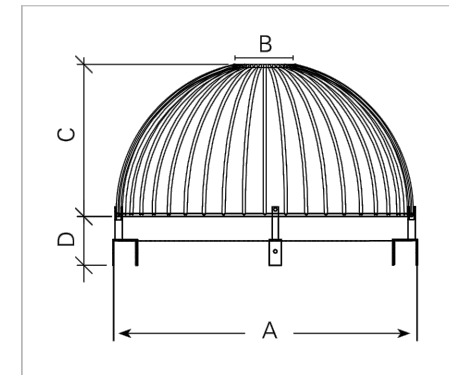

FIG. 1 Dimensions of Type 1 Hynds Scruffy Dome (see table).
- The type 1 debris screen is a full height design, suitable for manholes with a 600mm diameter or larger. (refer to figure 1)